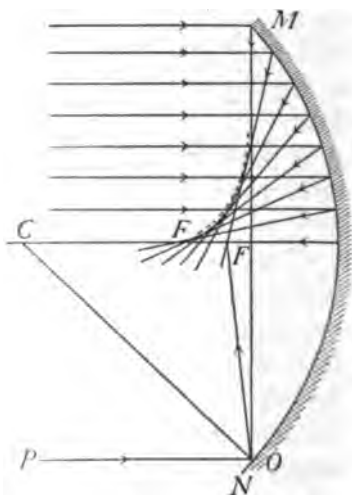

FIG. 364.—Illustrations of Spherical Aberration.
**373. Spherical Aberration.** Sometimes in a concave mirror when the aperture  $MCN$  (Fig. 364) is large the images are blurred or indistinct. This is due to the fact
that the incident rays near the outer edge of the mirror do not focus after reflection at the same point as those which pass into the mirror near the vertex, but cross the principal axis at points between the mirror and principal focus as is shown in Fig. 364; this result is called *spherical aberration*. The larger the aperture of the mirror the more the image is blurred. Concave mirrors in practical use do not have an aperture much greater than 10 degrees. This non-focusing of the rays of light by curved reflecting surfaces may be noticed in many places, as when light is reflected from the inside of a cup that contains milk or from the inside of a wide gold ring placed on top of a piece of white paper. The pupil will note other